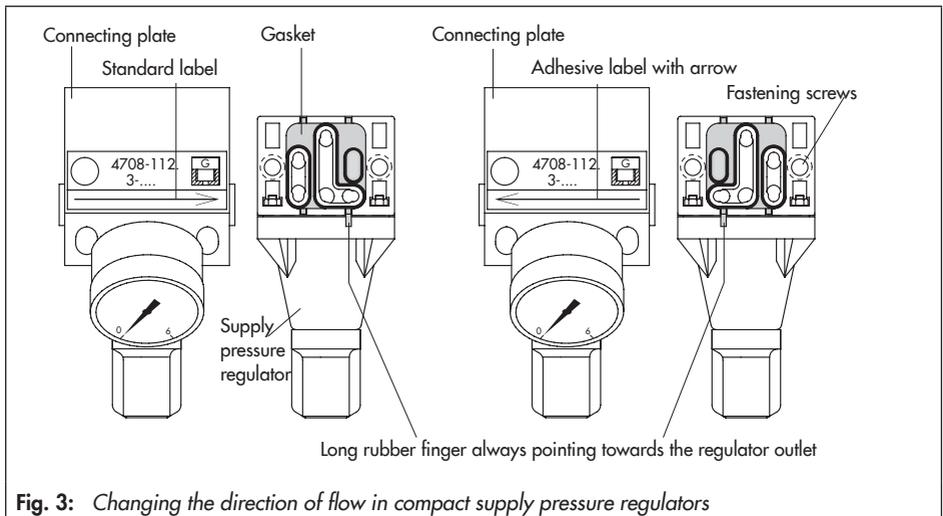

Fig. 3: Changing the direction of flow in compact supply pressure regulators
2. Remove the diverting gasket, turn it 180 degrees and reposition it as shown in Fig. 3.